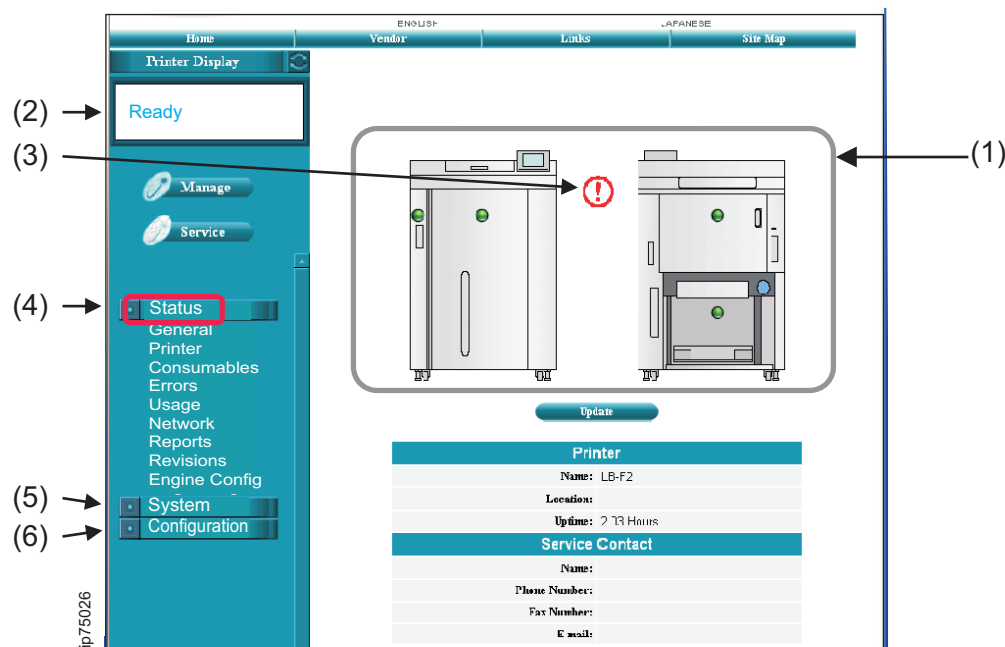

Figure 4. Web interface - General Status
- (1) -- the printer icon shows status for printer components. Green indicates normal operations and red indicates an error. To update status, click **Update**.
- (2) -- the printer display shows the same message displayed on the OCP.
- (3) -- the alert symbol indicates a warning or error that applies to a supply such as toner or developer mix.
- (4) -- select an item from the Status Menu to display detailed status about the printer. Figure 4 shows general status information. Other options display information about paper settings, supplies, errors, printer usage, network settings, and more.
- (5), (6) -- select items from the System Menu or Configuration Menu to manage and configure the printer. See "Using System Pages" on page 20 and "Configuration-Event" on page 28.